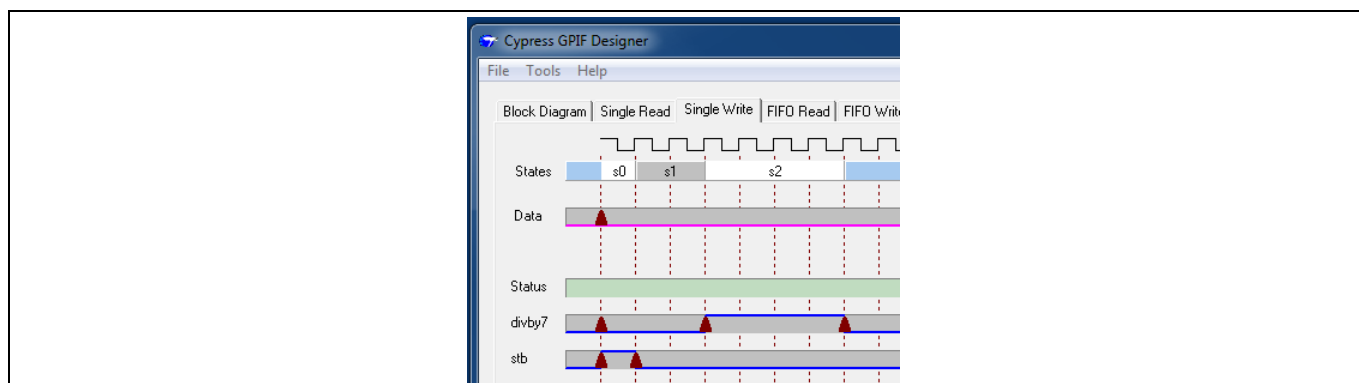

Figure 25 Divide by 7 and Strobe Waveforms
4. Select the **Single Write** tab. In the divby7 band, place a state transition triangle three clocks after the first triangle and another triangle four clocks after that. In the stb band, place a triangle one clock after the beginning; right-click on the first triangle and set it **HI**; set the second triangle to **LO**. This converts the negative polarity pulse to a positive polarity pulse in s0. The waveforms should look similar to Figure 25.